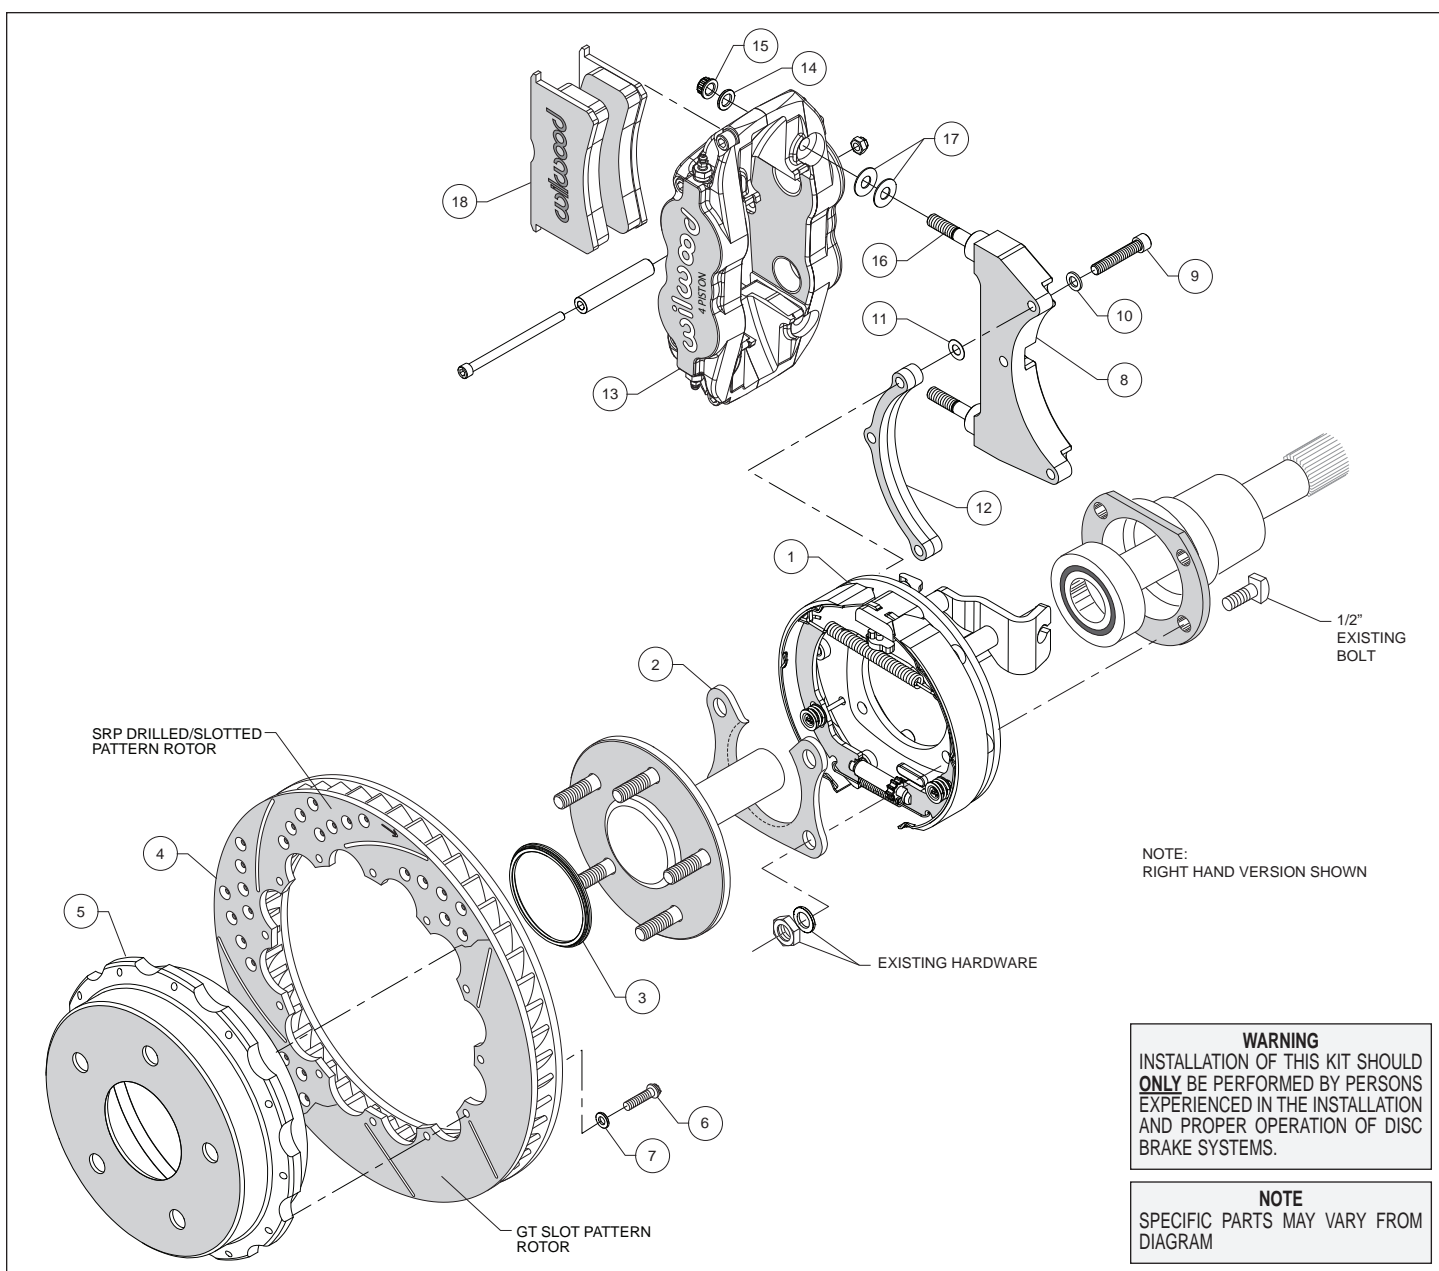
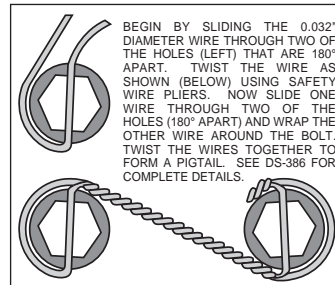

Figure 1. Typical Installation Configuration
Figure 5. Safety Wire Diagram
Assembly Instructions (numbers in parenthesis refer to the parts list, and Figure 1 on the preceding pages): **CAUTION:** All mounting bolts must fully engage clinch nuts. Be sure to check that all bolts are either flush or protruding through flanged side of clinch nut after shimming.
- Orient the bracket assembly (1) as shown in Figure 1 and Photo 1 and slide it onto the axle. Insert the axle and bracket into the axle housing. Ensure that the bracket assembly backing plate fits flush against the axle housing flange.
- Install the bearing retainer (2) with the opening pointing upward and the lip facing inward (toward the bearing), as shown in Figures 1 and 4, and Photo 2. Secure retainer and bracket assembly to the axle housing flange using the Original Equipment Manufacturer (OEM) bolts, washers, and nuts, Figure 1. Apply red *Loctite*® 271 to the OEM bolt threads and torque to OEM specifications.
•**NOTE:** Please reference the caution statement at the beginning of the assembly instructions. The caliper mounting bracket (8) should initially be installed with clean, dry threads on the mounting bolts. Orient the bracket as shown in Figure 1 and Photo 3, and install using bolts (9) and flat washers (10). Initially place one .015" shim washer (11) on each bolt between the bracket (8) and spacer (12), Figure 1. Temporarily tighten the mounting bolts. **NOTE:** End of bolt should not exceed inside face of insert. The bracket must tighten squarely against the back side of the bracket kit assembly (1). Inspect for interference from casting irregularities, machining ridges, burrs, etc. Later, after the caliper alignment has been checked, the mount bolts will be secured using red *Loctite*[®].
•Orient the rotor (4) and the hat (5) as shown in Figure 1 and Photo 3. Attach rotor to hat using bolts (6) and washers (7). Using an alternating sequence, apply red *Loctite*[®] 271 to the threads, and torque to 140 **in-lbs**. For an added measure of security, the bolts may be safety wired using standard 0.032 inch diameter stainless steel safety wire as shown in Figure 5. Please refer to Wilwood's data sheet DS-386 (available at www.wilwood.com/Pdf/DataSheets/ds386.pdf) for complete safety wire installation instructions.
•Slide the rotor registration adapter (3) onto the axle register on the axle flange with the smaller O.D. facing toward the rotor/hat (4/5), Photo 5. Align the hole pattern in the hat with the stud pattern on the axle flange and slide into place, Figure 1 and Photo 6. **NOTE:** The rotor/hat must fit flush against the axle flange or excessive rotor run out may result. Install three lug nuts (finger tight) to keep the rotor/hat assembly in place while continuing with the installation. **NOTE:** Some OEM and after market axles come with stud sizes larger than 0.50" diameter. Verify stud size and have a qualified machine shop drill the bolt circle of the hat/rotor to the correct stud size, if necessary.
•Lubricate the caliper mounting studs (16) with lightweight oil. Initially place two .035" thick shims (17) on each stud as shown in Figure 1 and Photo 7. Mount the caliper (13) onto the bracket (8) using lock nuts (15) and washers (14), Figure 1. Temporarily tighten the lock nuts and view the rotor through the top opening of the caliper. The rotor should be centered in the caliper, Photo 8. If not, adjust by adding or subtracting shims (11) between the bracket (8) and the spacer (12). Always use the same amount of shims on each of the three mounting bolts. Once the caliper alignment is correct, remove the bracket mounting bolts (9) one at a time, apply red *Loctite*[®] 271 to the threads, and torque to 180 **in-lb**.